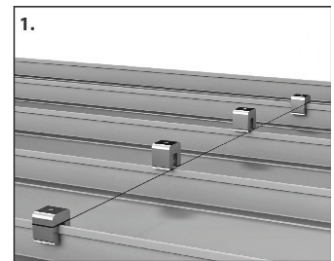

Figure 1
- 1. Install the first row of S-5! clamps, at the edge of the array:** It is critical that this row is straight. Install a clamp at both ends of the row, by measuring from a reference point such as the eave of the roof. Tighten the setscrews with Screw Gun and the included Bit Tip. The setscrews will dimple the seam material but will not penetrate it. When relying on published load values, setscrew tension should be verified periodically using a calibrated torque wrench to ensure the tool is consistently achieving the proper torque range (see Setscrew Torque Table below). Please see installation instructions provided with clamps for specifics. Stretch a string line between the two end clamps to provide a true line to mount the remaining edge clamps (Fig. 1).